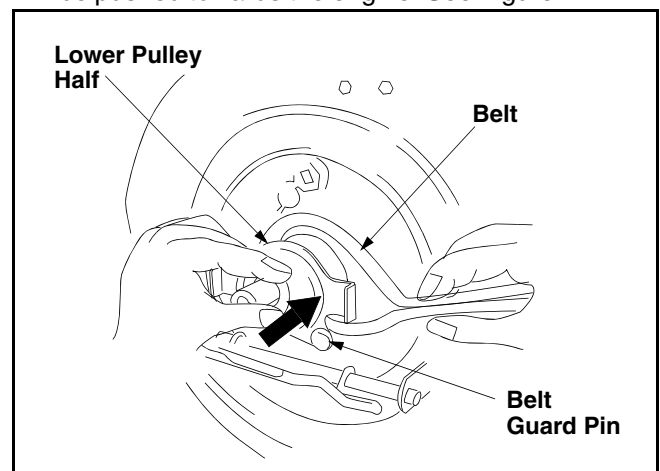

Figure 21
- Pinch both sides of the belt together so that the belt is not in the pulley groove, and the lower pulley can be pushed towards the engine. See Figure 21.